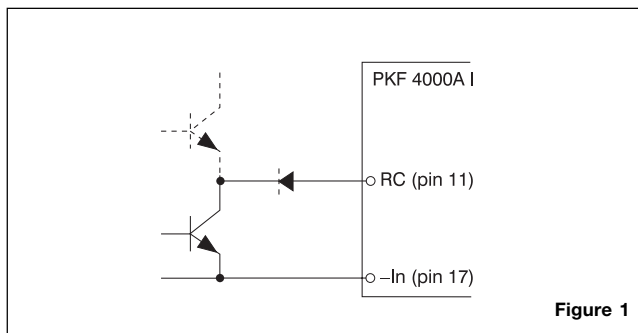

Figure 1
Turn-on or turn-off can be realized by using the RC-pin. If pin 11 is connected to pin 17 the power modules turns off. Normal operation is achieved if pin 11 is open (NC). To ensure safe turn-off the voltage difference between pin 11 and 17 shall be less than 1.0V. RC is an open collector compatible input. A sink capacity of 1mA is needed. (see fig. 1).